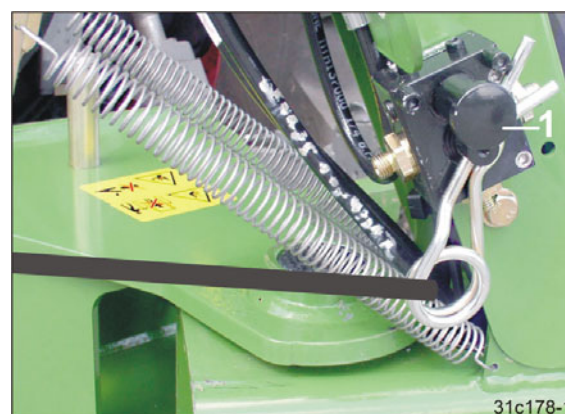

Fig. 138
- 3.1 Actuate the valve (Fig. 138/1). This empties the hydraulic accumulator.